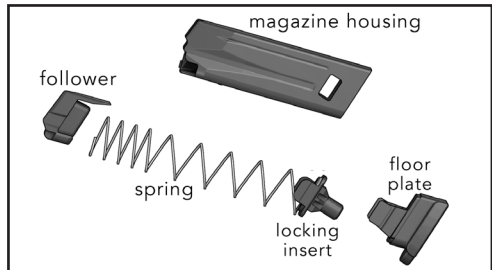

Figure 39
5. Remove the locking insert, magazine spring and magazine follower from the magazine housing. Figure 39 shows all the magazine components for 10-round magazines.